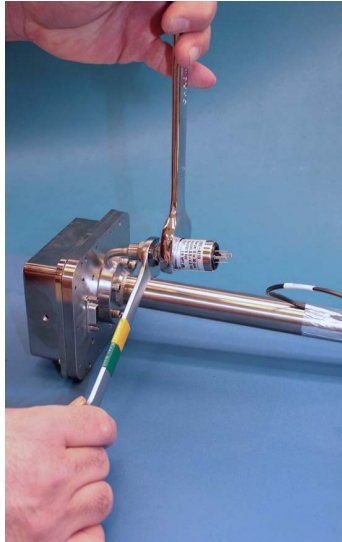

Figure B-13 Removing the old pressure sensor
2. Using a 9/16 in. wrench, secure the flange while using a 7/8 in. wrench to remove the old pressure sensor. Refer to Figure B-13.